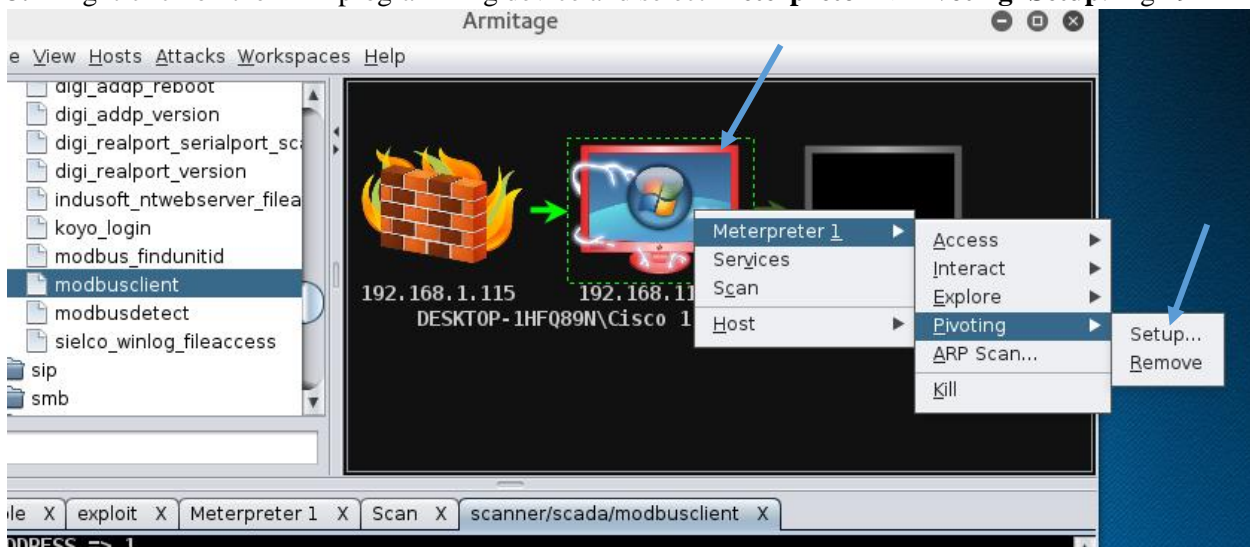

Fig 19
3. Right-click on the HMI programming device and select **Meterpreter 1>Pivoting>Setup**. Fig 19